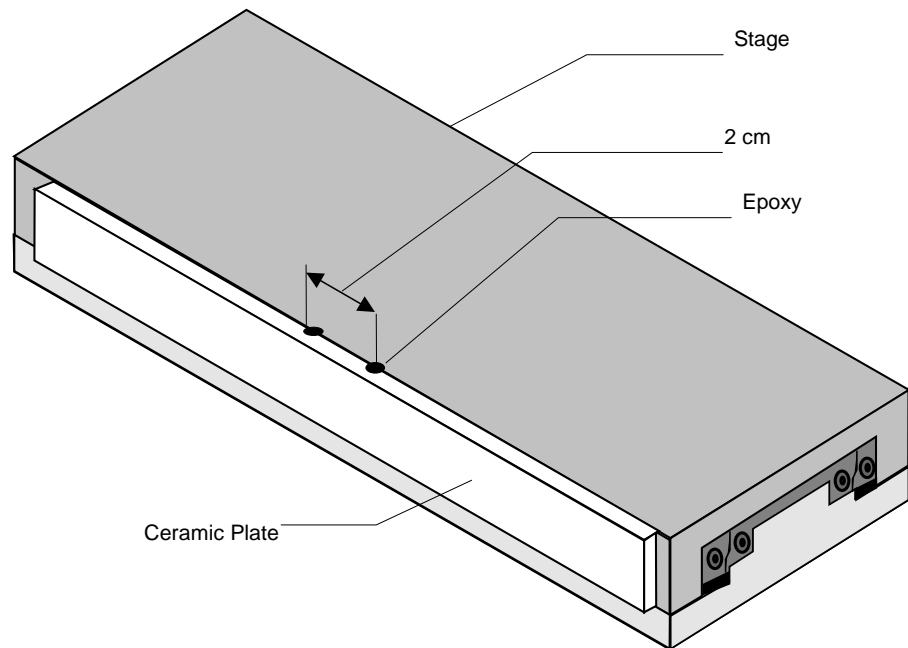

Figure 3: Securing the Ceramic Driving Plate to the Stage
- Referring to the Figure 3, apply *at least* two drops of epoxy adhesive (about 2cm apart), to the center of the Ceramic driving plate *upper* surface. The Epoxy must bond the plate and the stage.